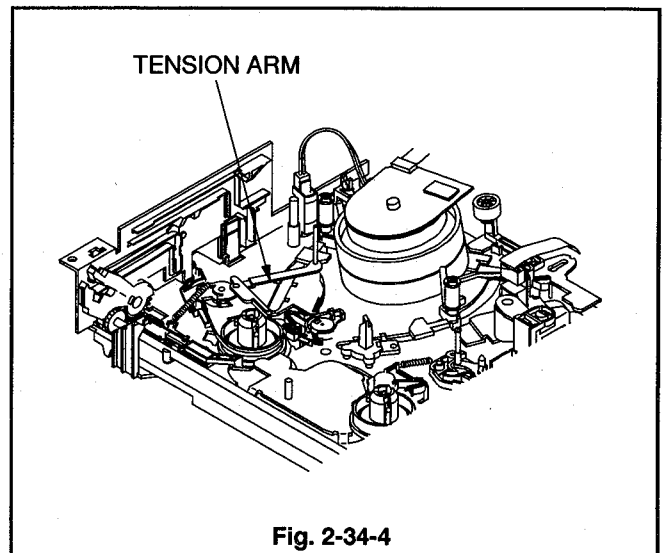

Fig. 2-34-4
- 4 Move the TENSION ARM shown in Fig. 2-34-4 fully to the direction shown by the arrow. Move the TAPE GUIDE ASSY (SP) and TAPE GUIDE ASSY (TU) shown in Fig. 2-33-1 fully to the unloading position.